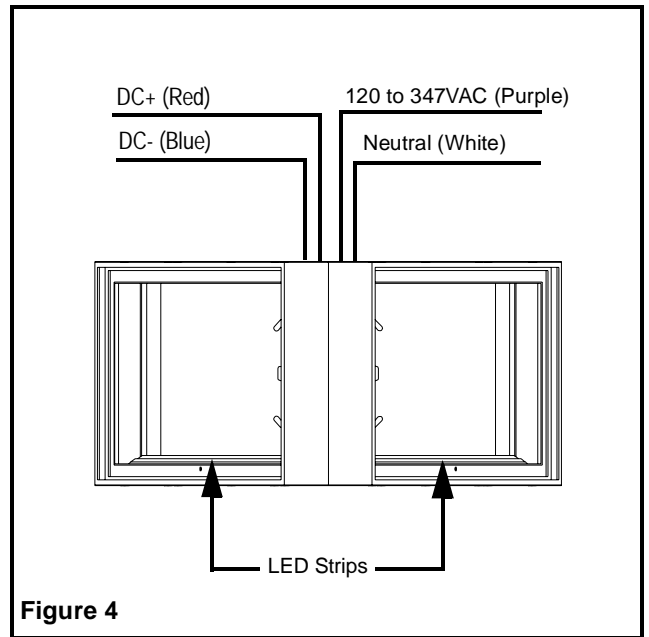

Figure 4
- c. Feed wires through the spider plate(2) and attach it to the junction box.
- e. Thread the 3/8" IPS pal nut(12) onto the stem approximately 1/2" from the end.
- f. Slide one lock washer(13) onto the stem, slide the canopy(4) onto the stem. Slide the other lock washer onto the stem and secure with the 3/8" IPS pal nut to the stem flush to the end.
6. Make the proper wire connections. The unit accepts an input voltage of 120 VAC to 347 VAC (see Figure 4).
Refer to Figure 4 for AC or DC wiring.